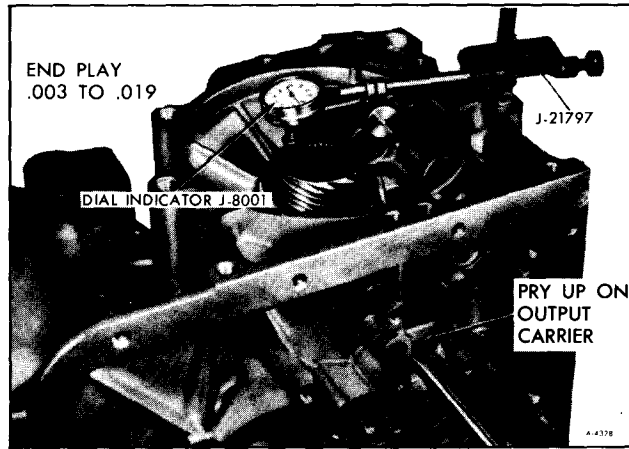

Figure 43—Checking Rear Unit End Play
3. Mount Dial Indicator, J-8001, on Bolt J-21797, and index indicator to register with flat surface on end of output flange, Figure 43.